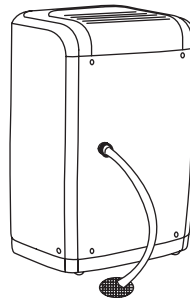

fig. 4
6. Place the end of the hose into the drain. (fig.4)